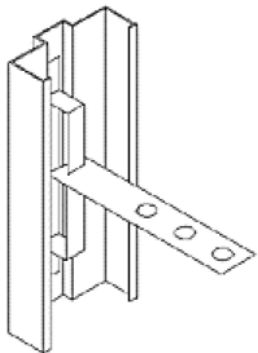

Figure 3
1. Masonry Anchors: Figure 3. The adjustable strap-and-stirrup type is normally used on hollow metal frames and is approved for use on fire rated frames. The stirrup or "yoke" is welded to the back of the jamb soffit. It is critically important, as stated above, that one anchor be placed near the top of each jamb, another near the bottom. This type of anchor can be used in either masonry or poured concrete construction and provides sufficient adjustment for masonry coursing as well as access for full grouting of jambs.